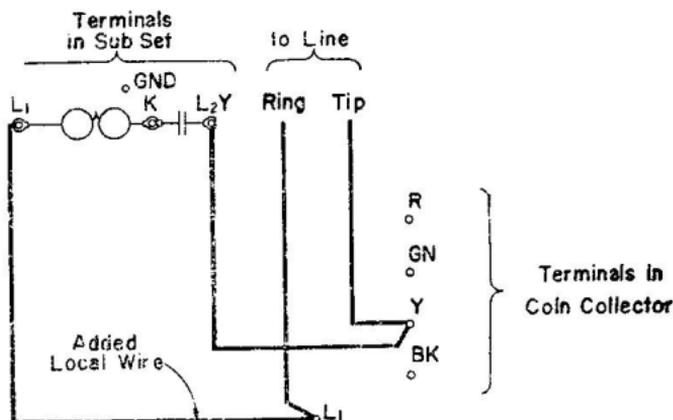
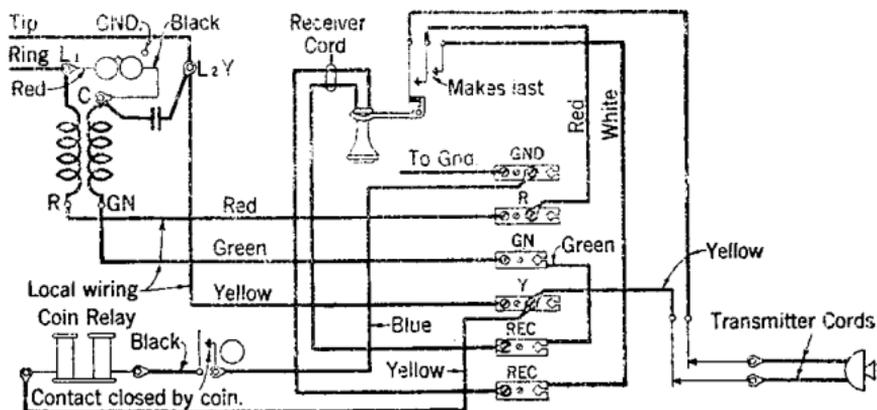

Fig. 1—50, 150, 161, D-98548 and D-99788 Type Coin Collectors Equipped with L_1 Terminal (Common Battery Stations)
Fig. 2—50A or F Coin Collectors—For Manual Sidetone Stations (For Maintenance Only)
2.01 If the coin collectors shown in Figs. 2 and 3 are connected to anti-sidetone subscriber sets, the BK and L2Y terminals in the subscriber set shall be strapped together and only one low impedance or two high impedance ringing bridges are permitted on the line. This arrangement should not be used on party lines nor with extension stations. Do not use a subscriber set having a 195A or similar lead encased condenser.
2.04 When D-98548, D-99788, 50, 150 and 161-type coin collectors are equipped with L_1 terminals, the line wires (Tip and Ring) should be connected directly to the coin collectors as indicated in Fig. 1 instead of to the subscriber sets as shown in Figs. 2 to 6, unless local instructions state otherwise. Other connections are the same as shown in Figs. 2 to 6. Although the line wires are shown connected directly to 181-type coin collectors in Figs. 7 and 8, they may be connected to the corresponding L_1 and L_2 terminals in the subscriber set, when permitted by local instructions.